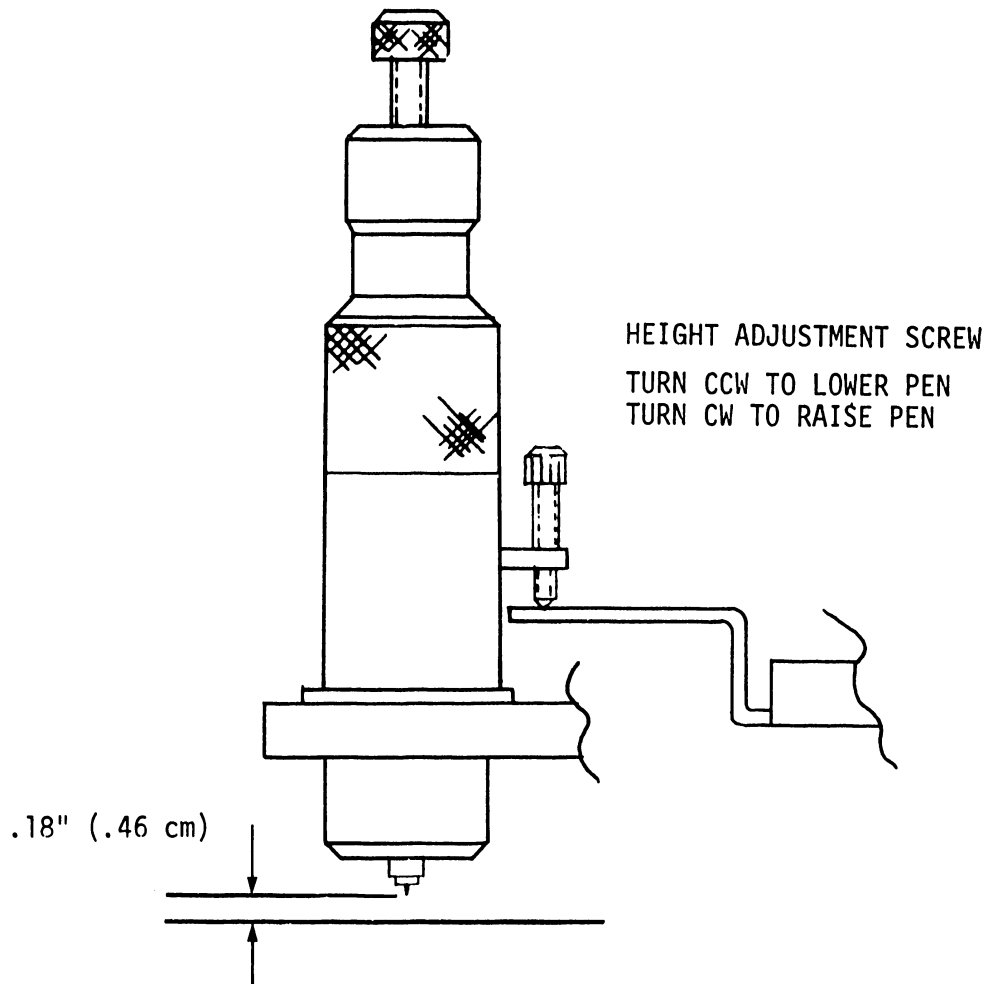

FIGURE 7
5.7 PEN HEIGHT ADJUSTMENT (Refer to Figure 7)